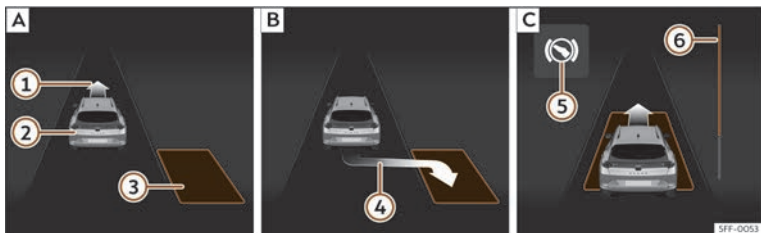
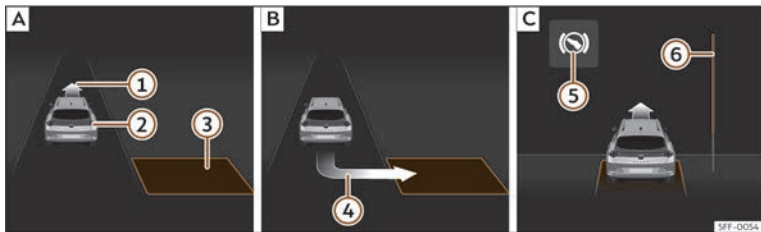

Fig. 151 On the instrument cluster display: parallel parking. **A**: Finding a parking space **B**: Parking position. **C**: Manoeuvring.
Fig. 152 On the instrument cluster display: angle parking. **A**: Finding a parking space **B**: Parking position. **C**: Manoeuvring.
- Look at the instrument cluster screen to see if the space has been detected as “appropriate” and if the correct position for parking has been reached >>> **Fig. 151 B** or >>> **Fig. 152 B**. The space is considered “appropriate” if the instrument cluster display shows the parking indication ④.
- Reverse until the continuous ParkPilot signal sounds; **OR:** reverse until the indication to move forward appears on the instrument panel display >>> Fig. 151 [C] or >>> Fig. 152 [C]; **OR:** reverse until the **Park Assist finished** message appears on the instrument cluster display. The progress bar [6] indicates the distance to cover.
- Move forward until the continuous ParkPilot signal sounds; **OR:** move forward until the reverse indication appears on the instrument panel display. The Park Assist system steers the vehicle forward and back until it centres it in the space >>> Fig. 151 [C] or >>> Fig. 152 [C].
The progress bar >>> Fig. 151 [6] and >>> Fig. 152 [6] on the instrument cluster display shows the relative distance to be covered as a symbol. The greater the distance, the fuller the progress bar. When driving forward, the content of the progress bar decreases upwards, and when reversing, it decreases downwards.